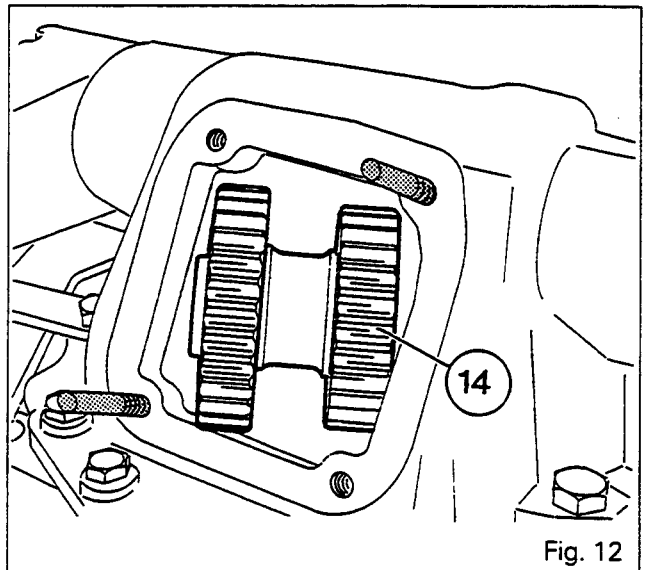
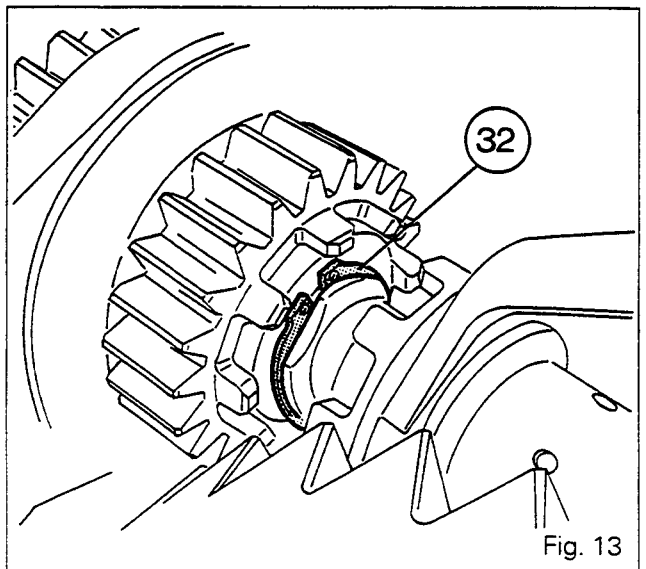

Fig. 12
Fig. 13
70. Withdraw the compound pinion assembly (14) (through the aperture of the spool valve support for version without shimming only) (Fig. 12).
71. Remove the needle roller bearings (17) and (20) and the spacer (19) of the pinion (18).
72. Remove the circlip (32) (Fig. 13).